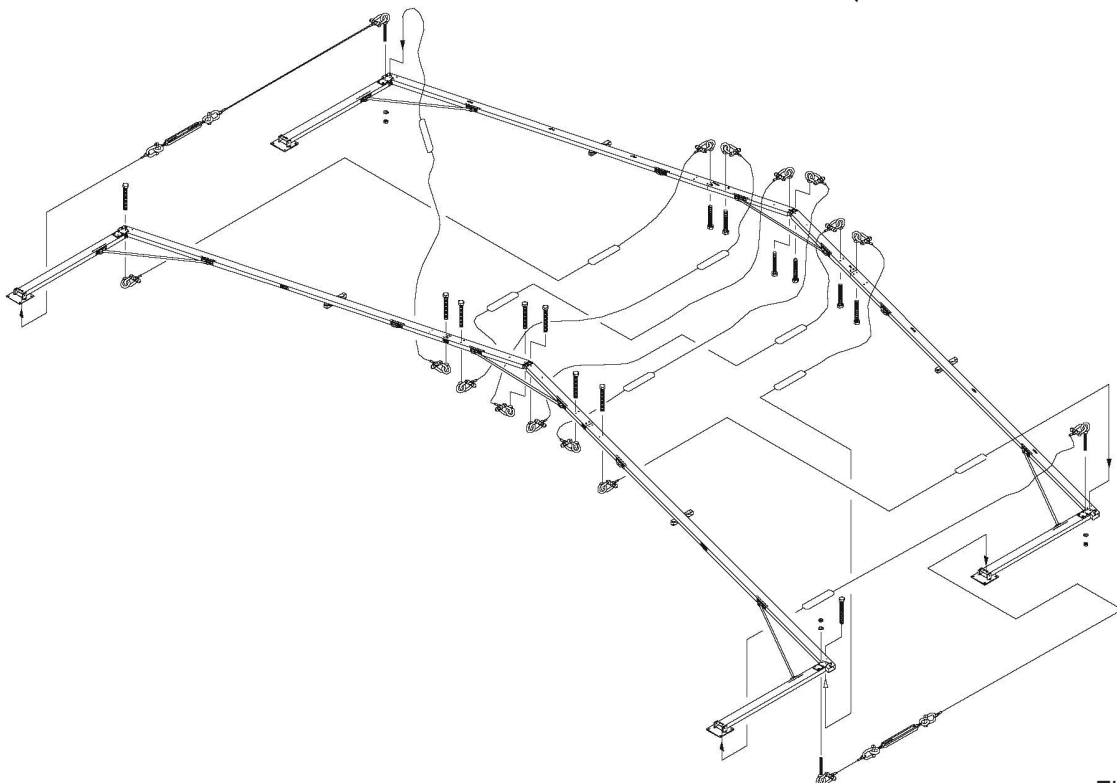

Figure 2.3c
2.3 Assembly of Cable Bracing: See Cable Configurations on page 6. Layout Cables in the appropriate bays. Install the cables so that the turn-buckles at the uprights are closest to the ground and at the roof cables are closest to the eave. For smooth installation, unscrew turnbuckles 3/4 of the way out, and keep threads lubricated. **See Figure 2.3c.** The cables have color coded labels; green labels indicate upright cables and blue labels indicate roof cables.